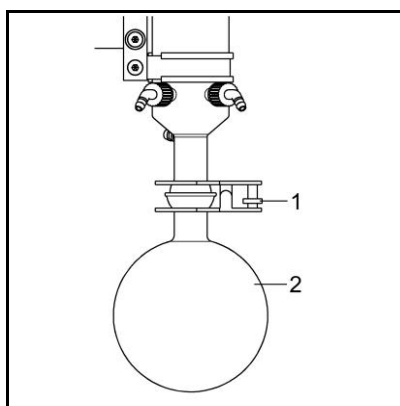

Fig. 20: High performance condenser
1. Carefully remove the spring clamp (Fig. 20/1) while supporting the glass flask (2).
2. Empty and clean the glass flask (2) – observing safety precautions.
3. Re-connect the glass flask (2) to the condenser and replace the spring clamp (1).